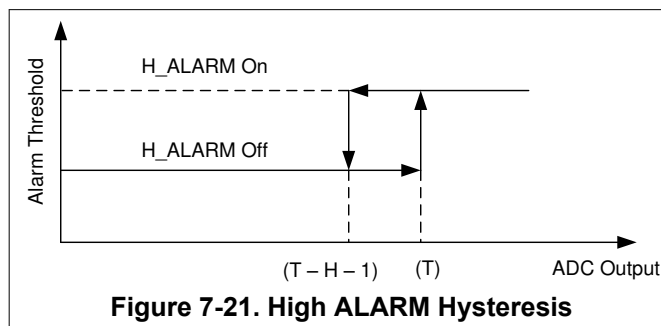

Figure 7-21. High ALARM Hysteresis
The device sets the input high alarm when the digital output exceeds the high alarm upper limit [high alarm threshold (T)]. The alarm resets when the digital output is less than or equal to the high alarm lower limit [high alarm (T) – H – 1]. This function is shown in Figure 7-21.